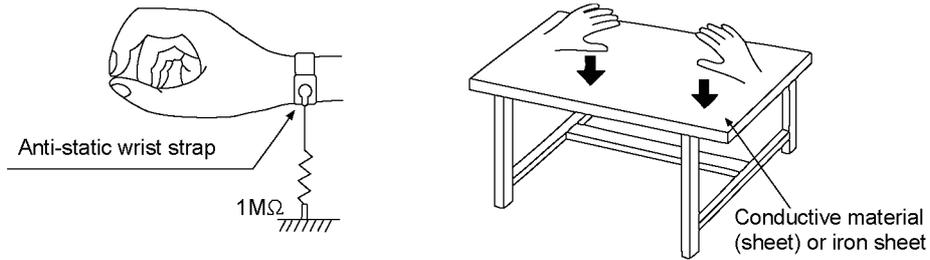

Figure 2-3
- Use the anti-static wrist strap to discharge the static electricity from your body Figure 2-3